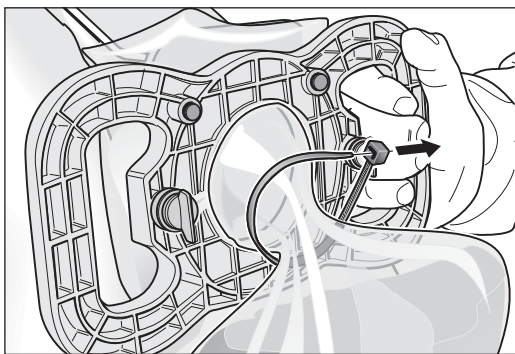

Fig. 29 Seal the waste bag with a cable tie.
- 14 Seal the filled waste bag with a cable tie (fig. 29).